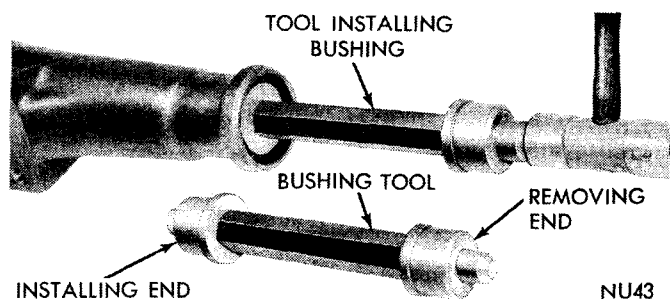

Fig. 10—Replacing Bushing in Extension Housing
(1) Drive the bushing out of housing (Fig. 10) with Tool C-3996.
(2) Slide a new bushing on installing end of Tool C-3996. Align oil hole in bushing with oil slot in housing, then drive bushing into place (Fig. 10).